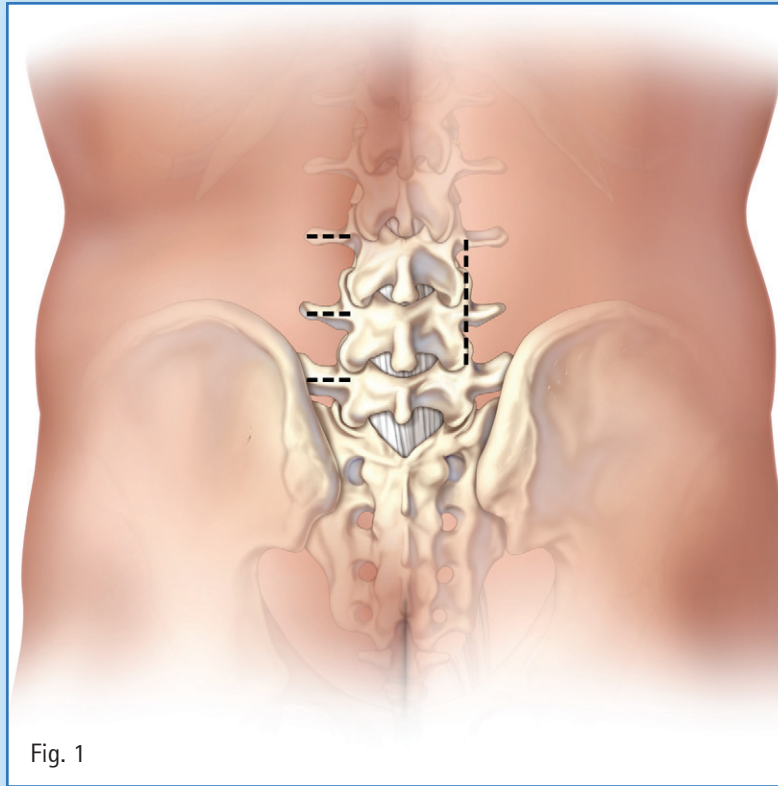

Fig. 1
2. Locate the pedicles of interest through A/P and lateral X-ray and mark appropriate incision areas on skin. (Fig. 1)